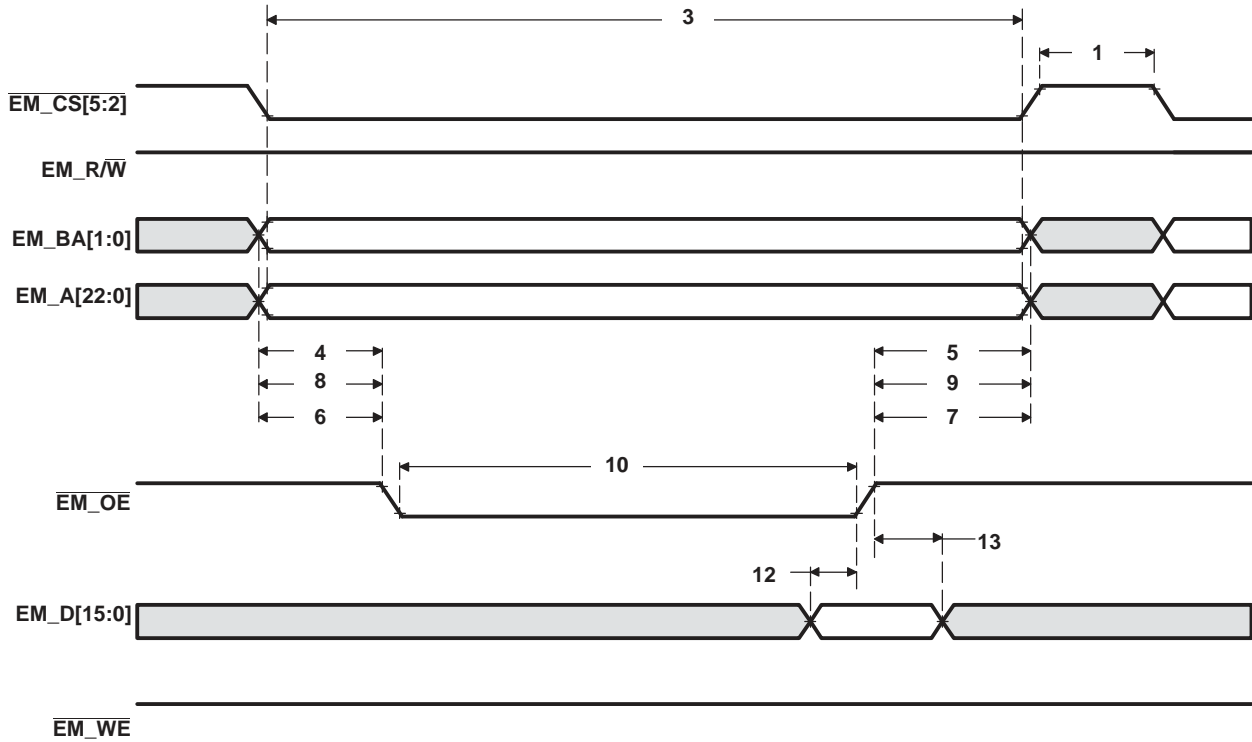
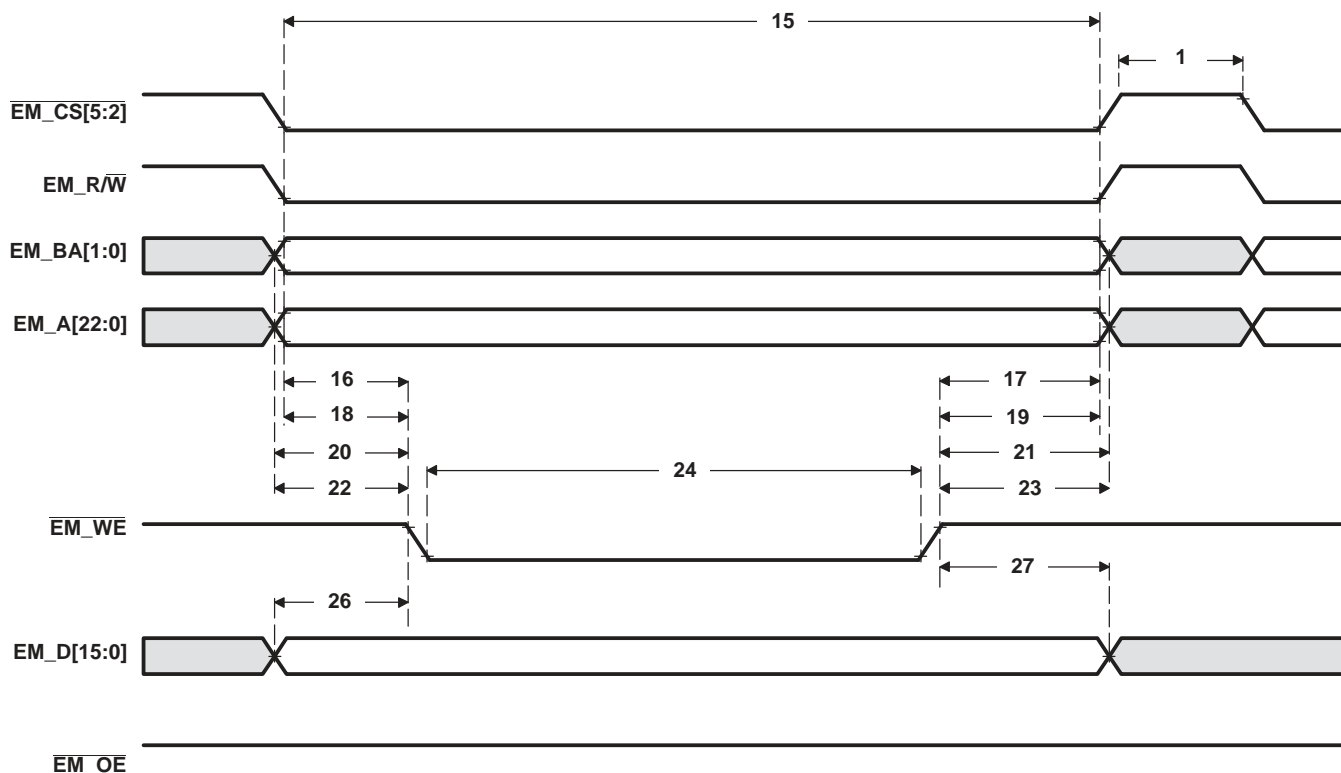

Figure 6-21. Asynchronous Memory Read Timing for EMIF
Figure 6-22. Asynchronous Memory Write Timing for EMIF
(see Figure 6-21 and Figure 6-22)
Table 6-29. Switching Characteristics Over Recommended Operating Conditions for Asynchronous Memory Cycles for EMIFA Module^{(1) (2)} (see Figure 6-21 and Figure 6-22)
Table 6-29. Switching Characteristics Over Recommended Operating Conditions for Asynchronous Memory Cycles for EMIFA Module (see Figure 6-21 and Figure 6-22) (continued)